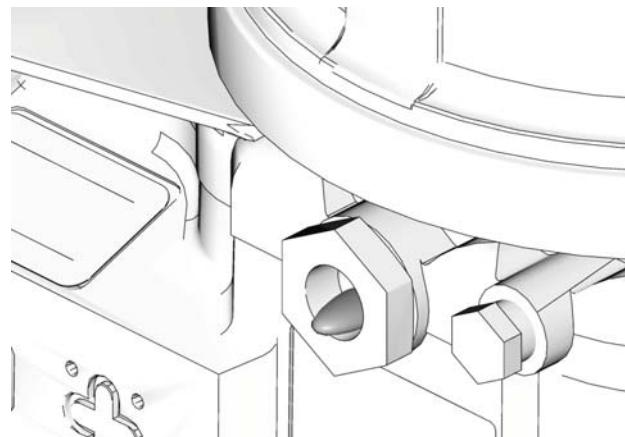

FIG. 19
- Only run pump until air is no longer dispensed with the lubricant coming out of element fitting (FIG. 19).